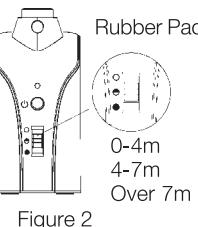

Figure 2
2. Select the distance selector of the Virtual Wall according to the actual requirements; pull the shift switch to the top position to select the low level (0~4 m), to the middle to select the medium level (4~7 m) and to the bottom to select the high level (above 7 m). See Figure 2, the lower the level, the lower the power consumption and longer the working time of batteries, therefore, you should try to select a lower level whenever possible.